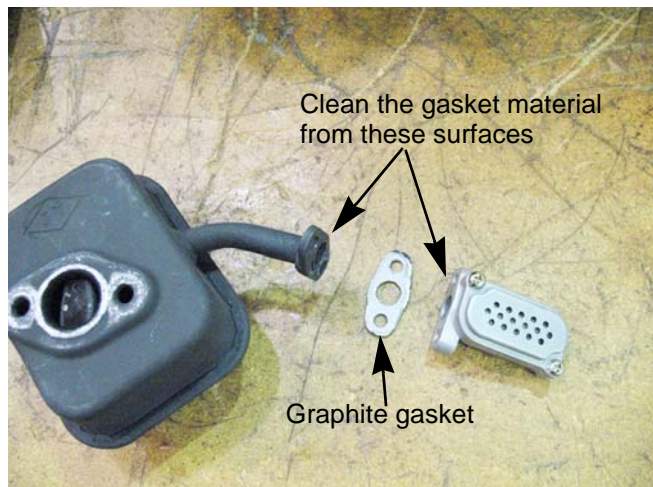

Figure 8.8
4. Clean the gasket material from the air injector and the muffler. See Figure 8.8.